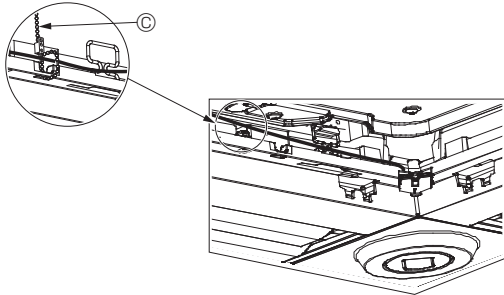

Fig. 5-13
- Secure the i-See sensor and signal receiver wires to the panel with the fastener as shown in the diagram so that there is no slack in the wires, and then cut off the excess end of the fastener. (Fig. 5-13)
- If the position of the i-See sensor was changed from the "o" position (E) to the "□" position (F), change the switch settings. (Refer to page 9.)